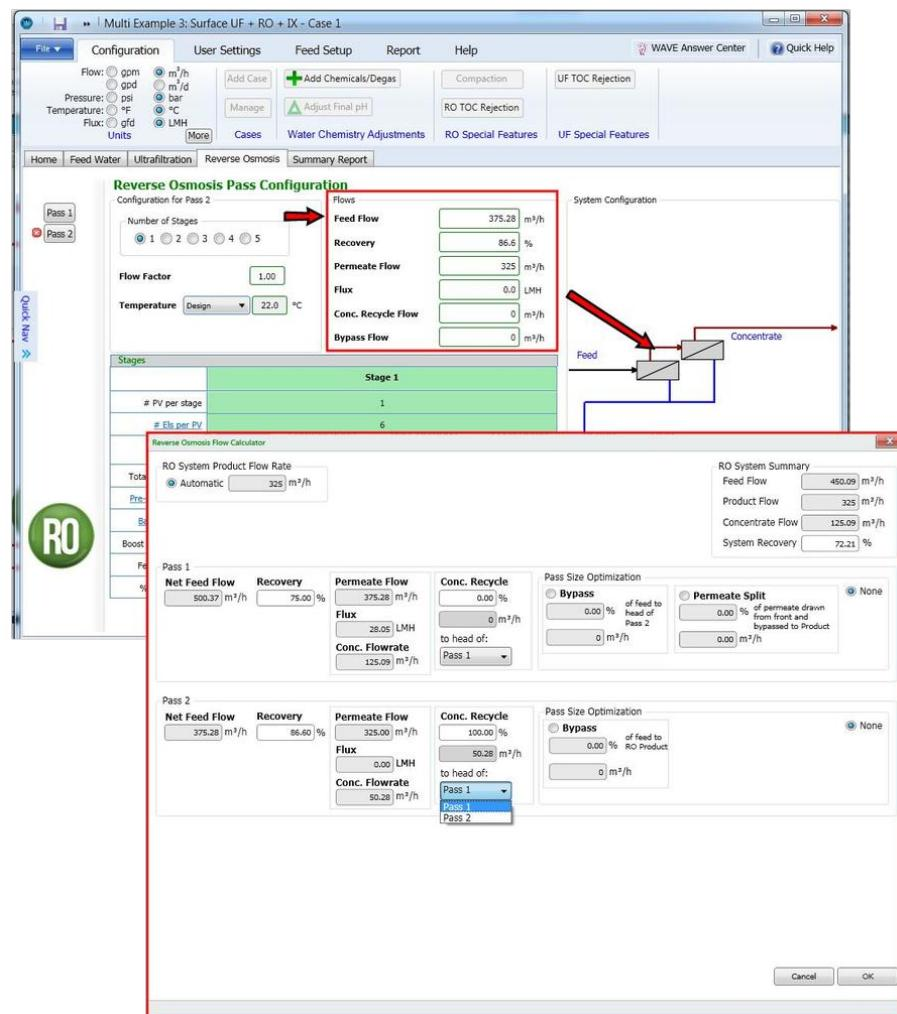

Figure 131. Specification of RO/NF/ROSC system Concentrate Recycle to Feed: Before (Upper image) and After (Bottom image)
To help improve System Recovery, a WAVE user may be interested in recirculating the concentrate from a pass to the feed of the same or a different pass. This can be done as follows (and shown in Figure 131):
2. Click on any entry field in the 'Specification' area (shown in Figure 131). The 'Flow Calculator' Pop-up Window Specification of RO/NF/ROSC system Concentrate Recycle to Feed: Before (Upper image)